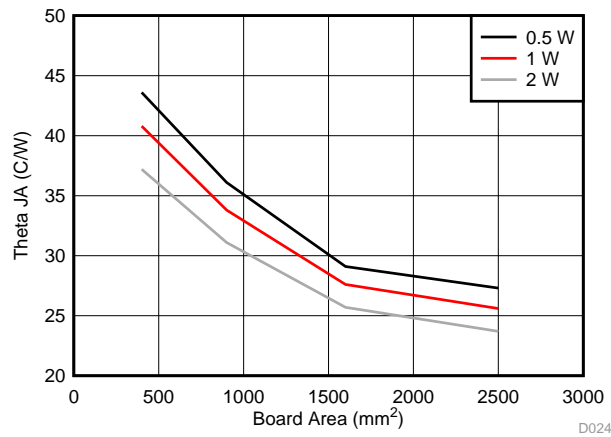

Figure 17. $R_{\theta JA}$ versus Copper Board Area
It is easy to see that larger ambient temperatures (T_A) and larger values of $R_{\theta JA}$ will reduce the maximum available output current. As stated in SPRA953, the values given in the Thermal Information table are not valid for design purposes and must not be used to estimate the thermal performance of the application. The values reported in that table were measured under a specific set of conditions that are never obtained in an actual application. The effective $R_{\theta JA}$ is a critical parameter and depends on many factors such as power dissipation, air temperature, PCB area, copper heat-sink area, number of thermal vias under the package, air flow, and adjacent component placement. The LM53603-Q1 utilizes an advanced package with a heat spreading pad (EP) on the bottom. This must be soldered directly to the PCB copper ground plane to provide an effective heat-sink, as well as a proper electrical connection. The resources found in Table 8 can be used as a guide to optimal thermal PCB design and estimating $R_{\theta JA}$ for a given application environment. A typical example of $R_{\theta JA}$ versus copper board area is shown in Figure 17. The copper area in this graph is that for each layer of a four layer board; the inner layers are 1 oz. (35 μ m), while the outer layers are 2 oz. (70 μ m). A typical curve of maximum load current versus ambient temperature, for both the LM53603-Q1 and LM53602-Q1, is shown in Figure 18. This data was taken with the device soldered to a PCB with an $R_{\theta JA}$ of about 17°C/W and an input voltage of 12 V. It must be remembered that the data shown in these graphs are for illustration only and the actual performance in any given application will depend on all of the factors mentioned above.